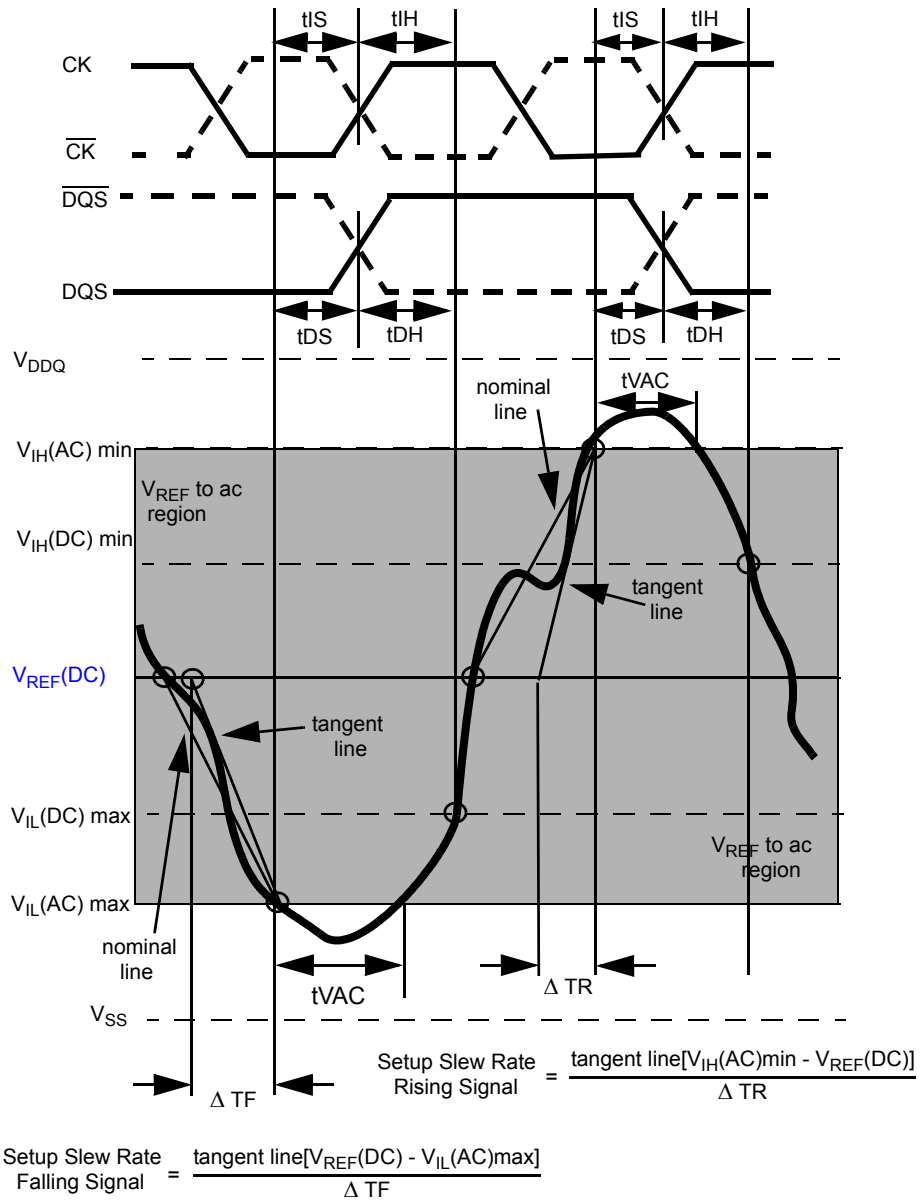

Figure 27. Illustration of tangent line for setup time  $t_{DS}$  (for DQ with respect to strobe) and  $t_{IS}$  (for ADD/CMD with respect to clock)
Setup (tDS) nominal slew rate for a rising signal is defined as the slew rate between the last crossing of VREF(DC) and the first crossing of VIH(AC)min. Setup (tDS) nominal slew rate for a falling signal is defined as the slew rate between the last crossing of VREF(DC) and the first crossing of VIL(AC)max (see Figure 25). If the actual signal is always earlier than the nominal slew rate line between shaded 'VREF(DC) to ac region', use nominal slew rate for derating value. If the actual signal is later than the nominal slew rate line anywhere between shaded 'VREF(DC) to ac region', the slew rate of a tangent line to the actual signal from the ac level to dc level is used for derating value (see Figure 27).